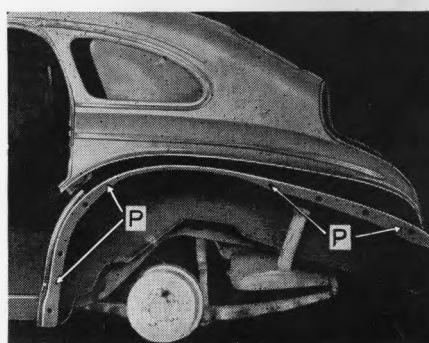

FIG. 9
- Place the new wheelhouse in the body opening. Fig. 9, and
14. Apply deadener coating No. 5267272, with a brush, to the complete outer surface of the wheelhouse, working it well into all seams and overlapping surfaces. Make sure the deadener coating is also applied to the outer edge of the wheelhouse, "P" Fig. 9, taking care that it does not contact the threaded part of the anchor nut. Coat the